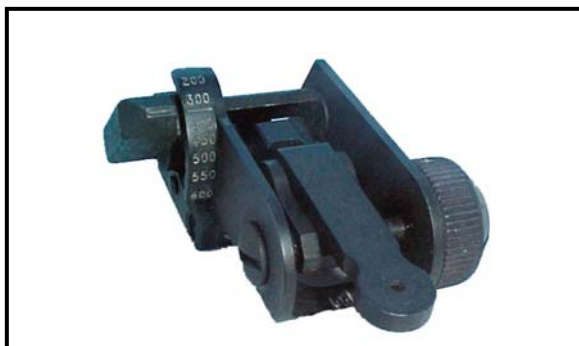

Figure 2-22. BIS in the stowed position.
b. Once installed and zeroed, the BIS should be left in the stowed position for best durability and minimal interference unless its use is eminent (Figure 2-22). It provides a sighting capability when all other accessories have been removed, and it can be used to establish approximate zeros for other sighting components without requiring live fire. Zeros established using this method are only effective to approximately 20 meters and should be refined by a live-fire zero.